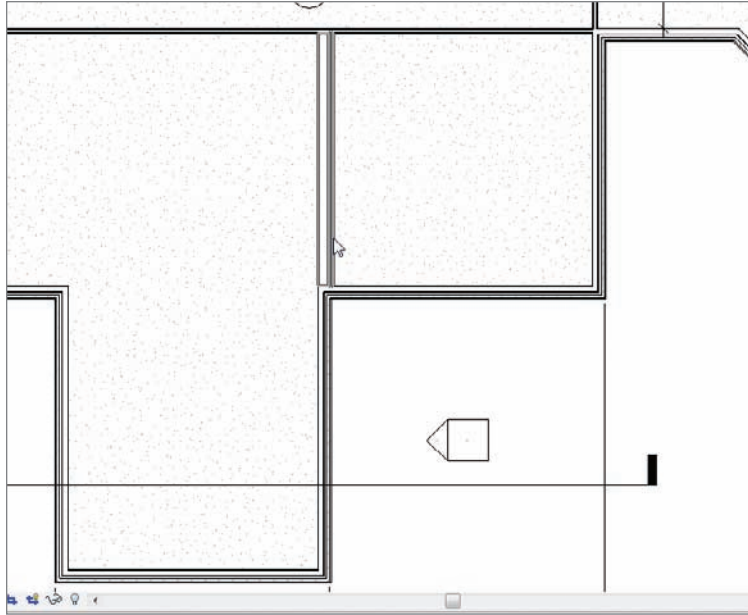

FIGURE 16.24 Adding the new stacked wall to the model
16. Draw the wall in the west wing, as shown in Figure 16.24. (If you wish, you can create an elevation, or cut a section through the wall.)